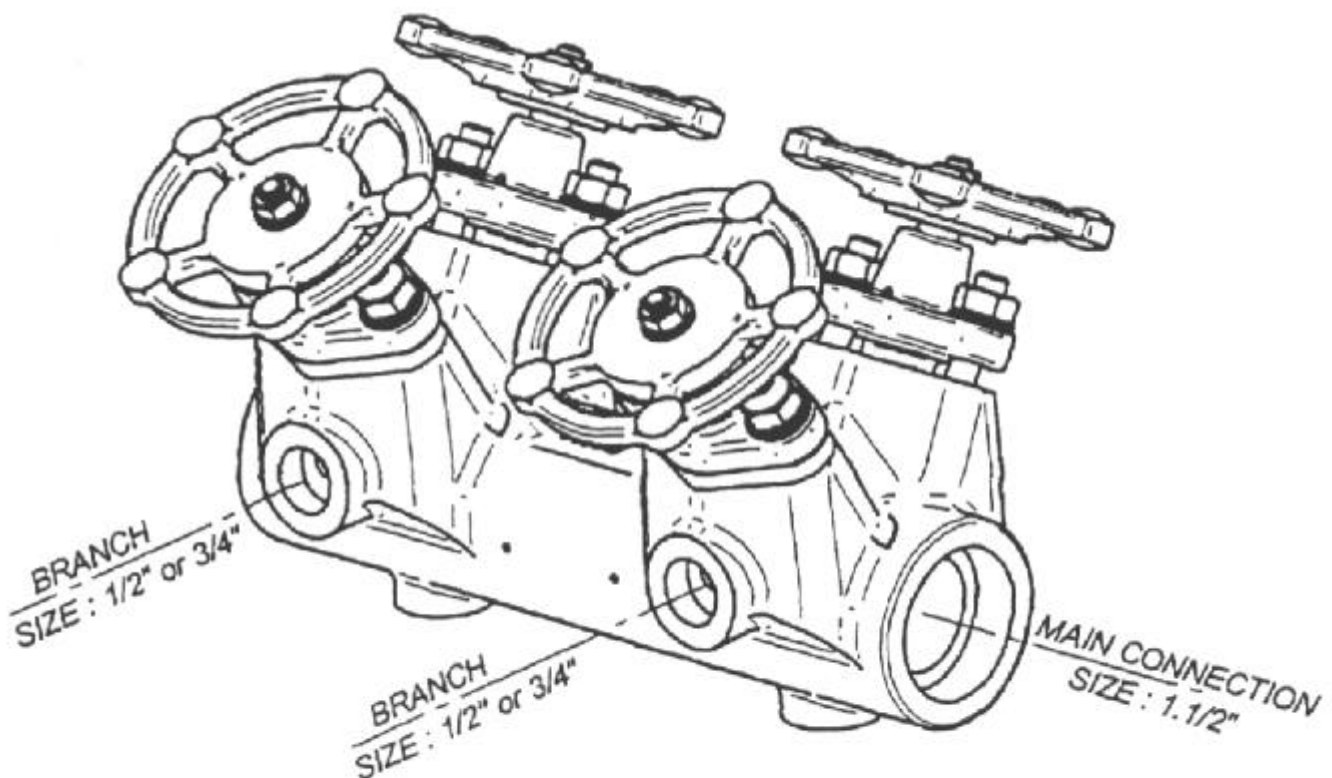

Fig. 4
- ❑ Branch : size ½" or ¾" (SW ANSI B16.11 or NPT ANSI B1.20.1) connections both for steam distribution and condensate collection. (see fig. 4).